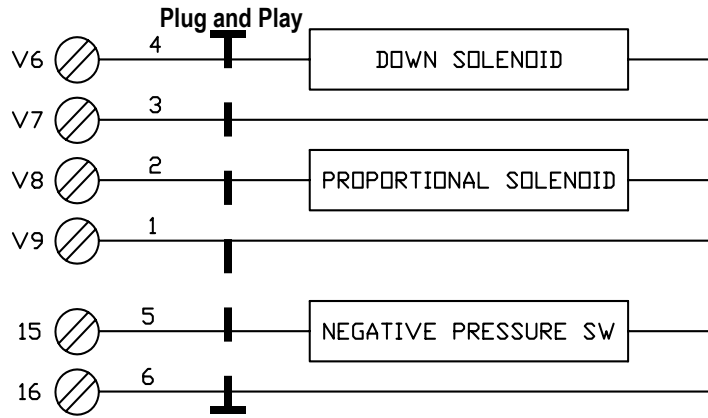

Figure 101
- 1) Connect the hydraulic valve to the Main Controller board using cable supplied. Connections are as shown in Figure 101.